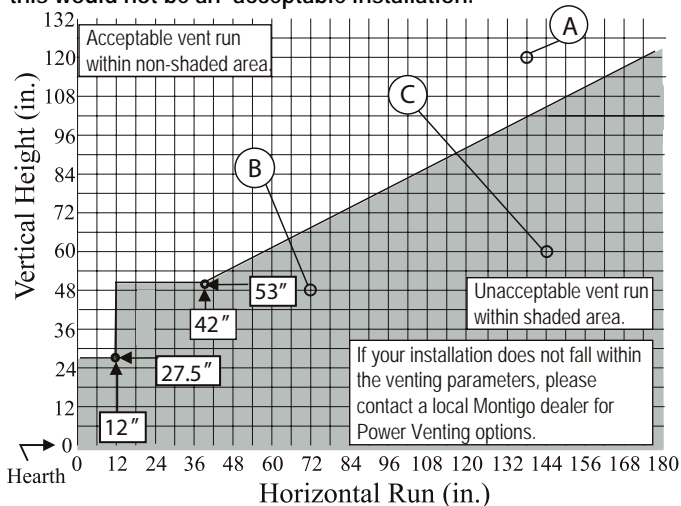

Figure 14. Rear Vent Venting Graph for NG and LP wall mounted terminations.
- Venting runs must fall within the limits set by the venting graphs, see Figure 14.
Measure the vertical height from the fireplace hearth to the centre of the termination and the horizontal run from the fireplace flue collar to the wall flange of the termination. Plot on the Venting Graph Figure 14 with an 'X'.
Figure 14a. Straight run, Rear Vented, wall mounted termination. The vent run must comply with the Venting Graph for Rear vent, wall mounted terminations, Figure 14.
Figure 14b. Rear Vented, wall mounted Multi-elbow termination installation. The vent run must comply with the Venting Graph for Rear vent, wall mounted terminations, Figure 14.